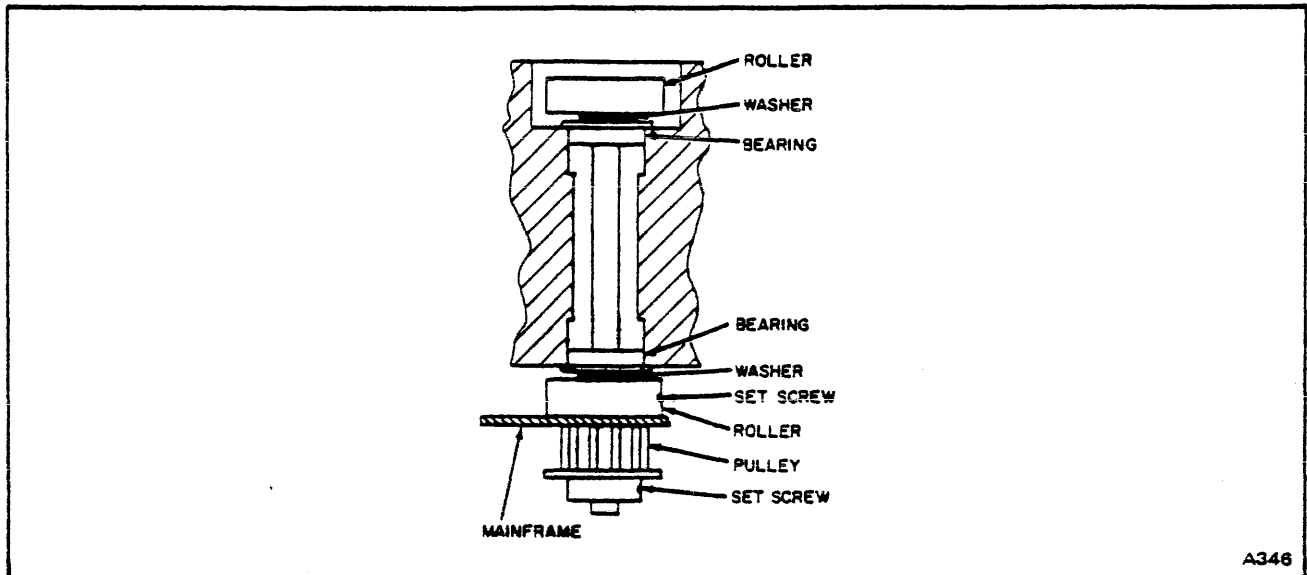

Figure 6-8. Roller Shaft Bearing Preload Adjustment
- a. To reload bearings rotate roller of shaft to be adjusted to expose the set screw. Loosen the set screw in top roller, Figure 6-8.